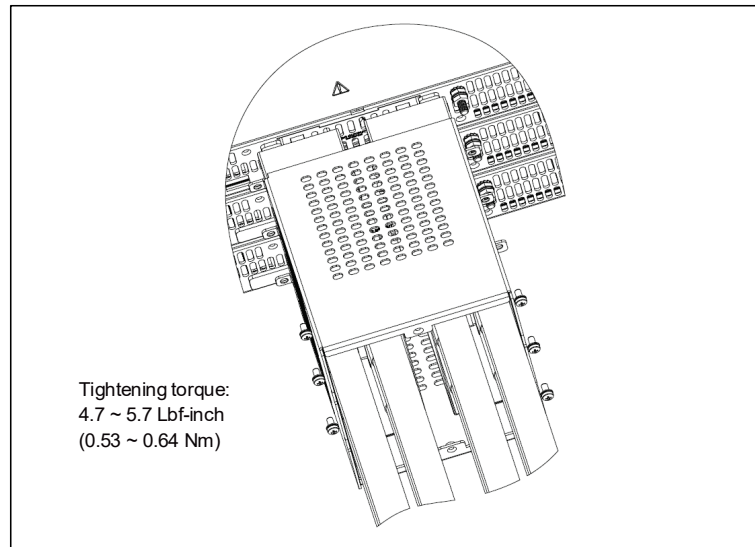

Figure 4-24: Assembly of 10V Wires Protection Cover
5. Assemble the bus bars protection assembly to the rear panel of the power supply, by using 6 M3x6 Sems screws, as shown in Figure 4-24 (15kW is shown, it applies to 10kW as well. For 10kW, there are 4 screws only).
3. Assemble the bus bars protection assembly to the rear panel of the power supply, by using 6 M3x6 Sems screws, as shown in Figure 4-24 (15kW is shown, it applies to 10kW as well. For 10kW, there are 4 screws only).